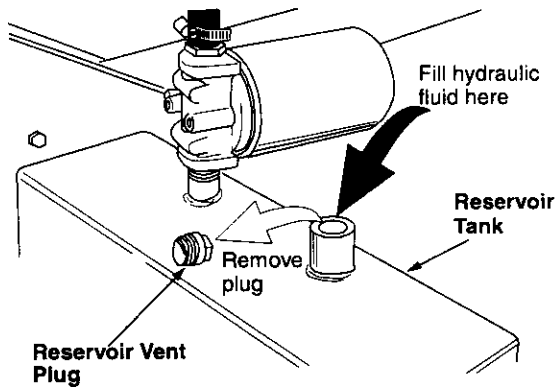

Figure 8
- Remove reservoir vent plug. See Figure 8.